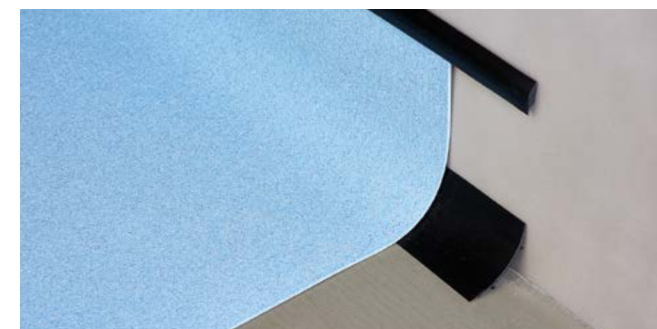

Figure 9 CS Capping strip
**3.13.2 Fitting with sit-on capping strip (Type CS) Figure 9**